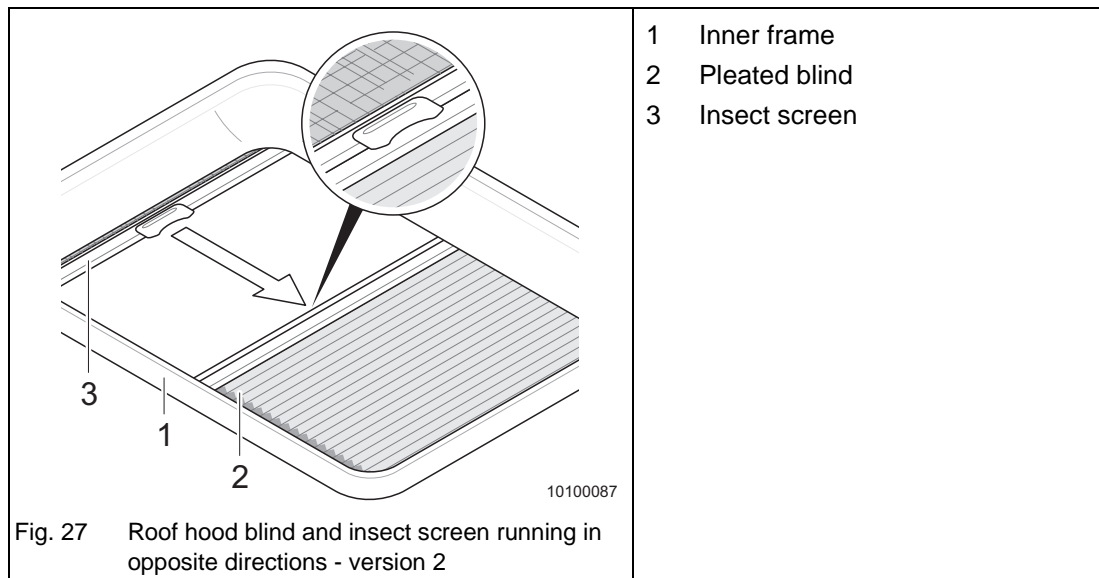

Fig. 27 Roof hood blind and insect screen running in opposite directions - version 2
- The insect screen (Fig. 27/3) can only be closed when the pleated blind (Fig. 27/2) is latched in.
The pleated blind (Fig. 27/2) and the insect screen (Fig. 27/3) are fitted in the inner frame (Fig. 27/1) of the roof hood.